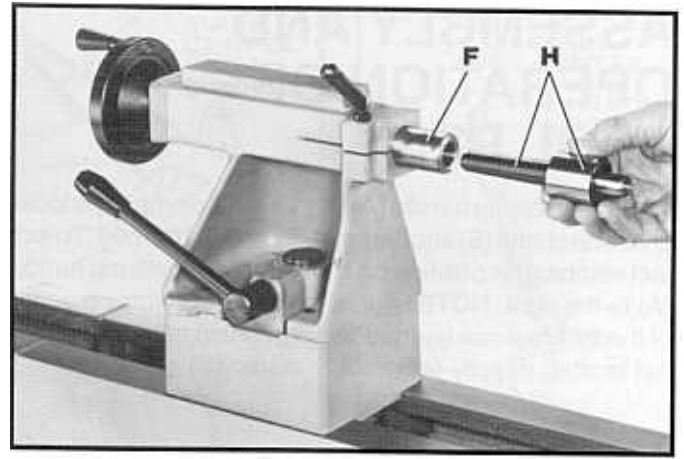

Fig. 25
3. Your machine is supplied with a ball bearing tailstock center (H) Fig. 25, which is to be inserted into the tailstock spindle (F) as shown.